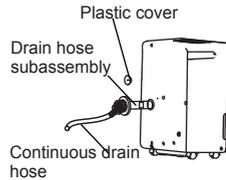

Fig. 11
- Remove the continuous drain hose and the drain hose subassembly from the unit. Install the plastic cover to the continuous drain hose outlet of the unit by using two screws. (See Fig. 11)